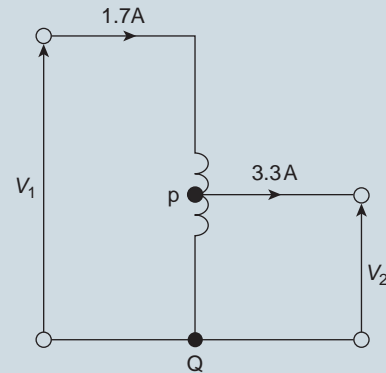

Figure 24.23
2. In the auto-transformer shown in Fig. 24.23, the current in section PQ is: